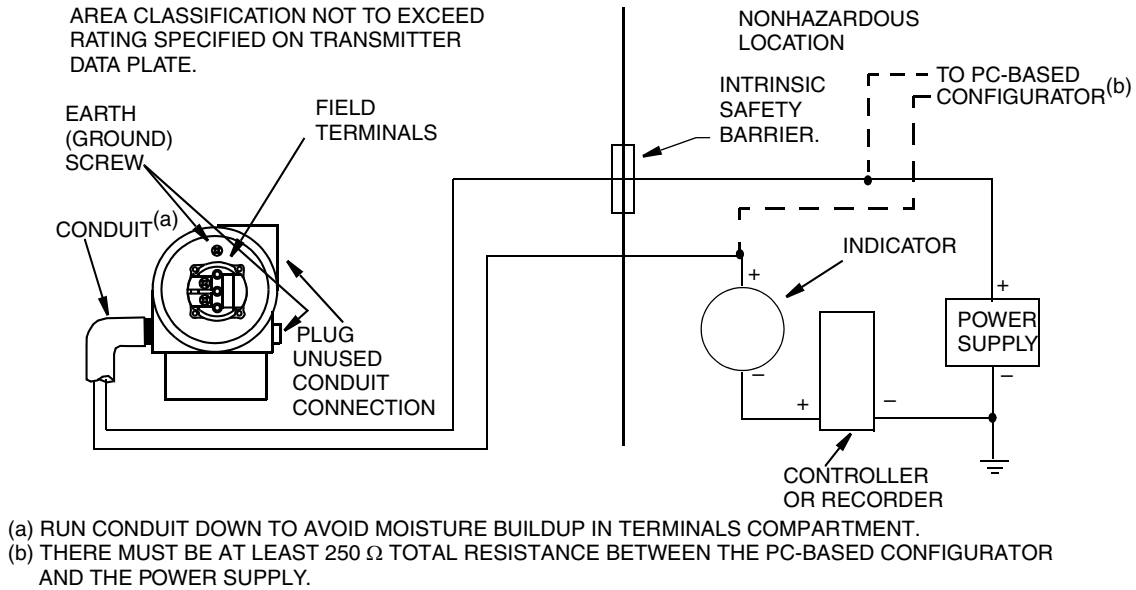

Figure 18. Loop Wiring 4 to 20 mA Output Transmitters
7. Connect receivers (such as controllers, recorders, indicators) in series with power supply and transmitter as shown in Figure 18.
10. The PC-Based Configurator can be connected in the loop between the transmitter and the power supply as shown in Figures 18 and 19. Note that a minimum of 250 Ω must separate the power supply from the PC-Based Configurator.